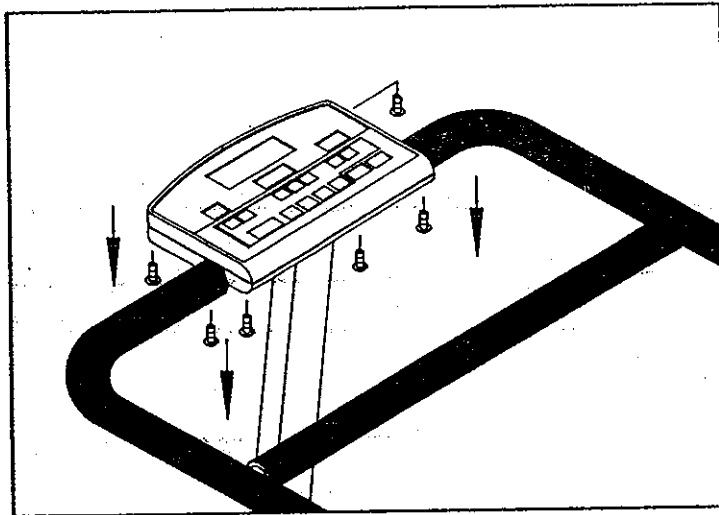

Fig. 1
1. Remove the six screws securing the electronics package (see Fig. 1).